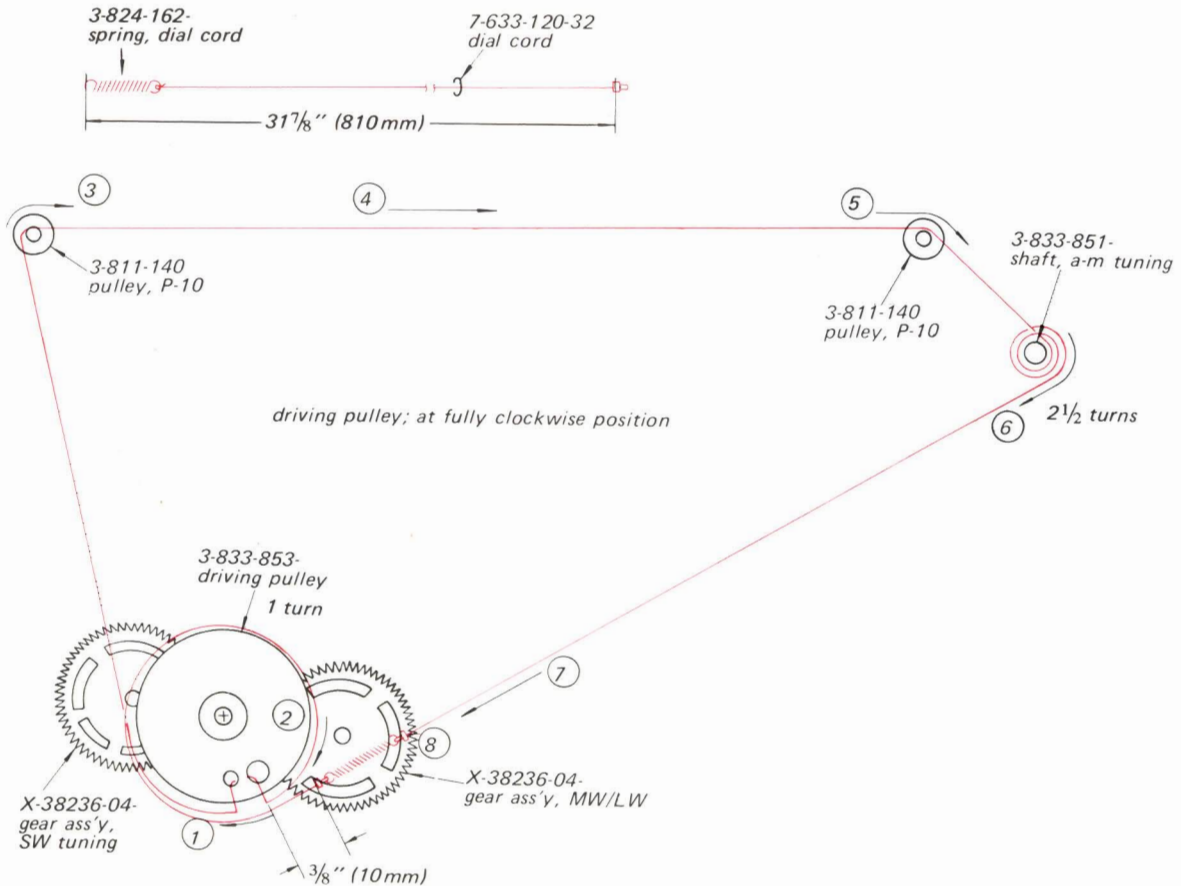

Fig. 2-22
4. Rotate the driving pulley for a-m bands fully clockwise to its minimum capacitance position as shown in Fig. 2-22.